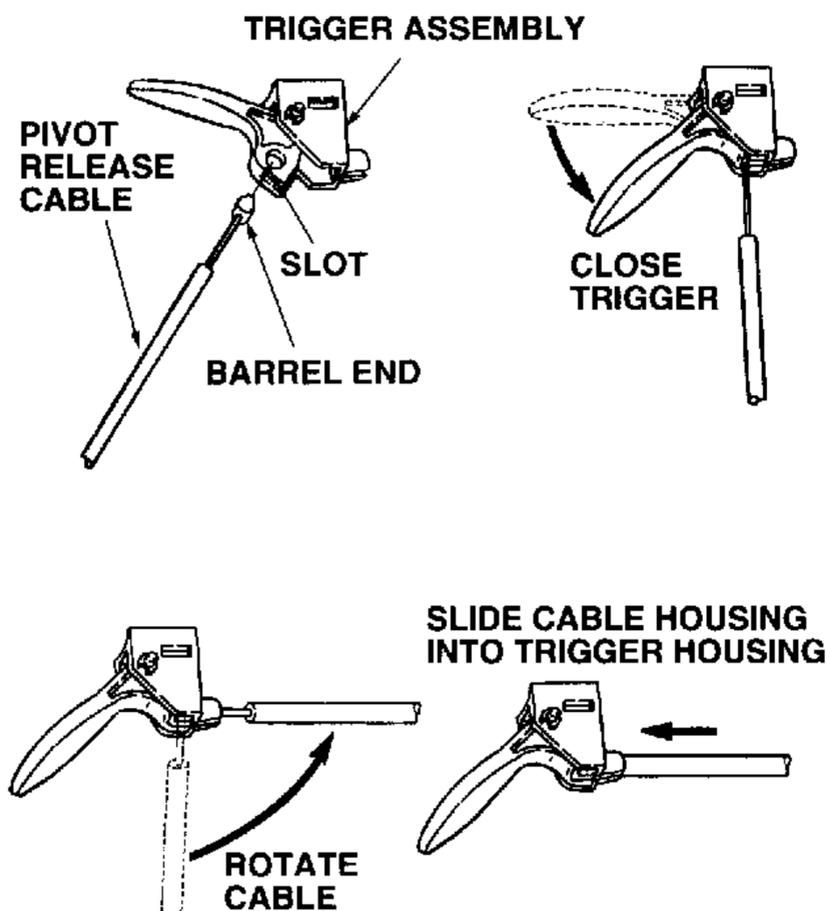

Figure 7-15. Attaching Trigger to Cable.
4. Install the trigger assembly (7, Fig. 7-9) onto the pivot release cable. Refer to Figure 7-15 and proceed as follows: